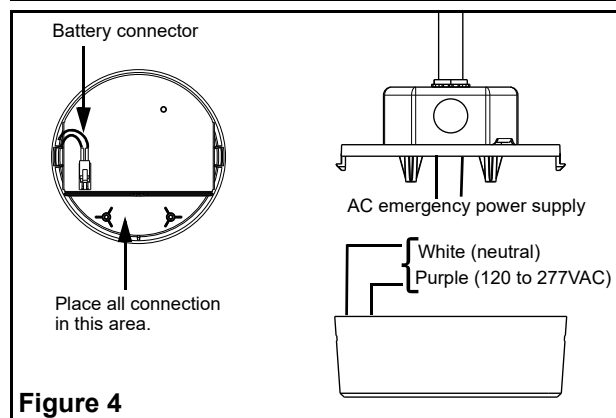

Figure 4
7. The system accepts input voltages of 120 to 277 VAC: Connect the white lead to neutral and purple lead to AC emergency power. (see fig. 4)
8. Connect battery connector to Printed Circuit Board Assembly (PCBA). (see fig. 4)
9. Position AC supply wire connections in the designated area in the housing and snap housing to back plate. (see fig. 4)